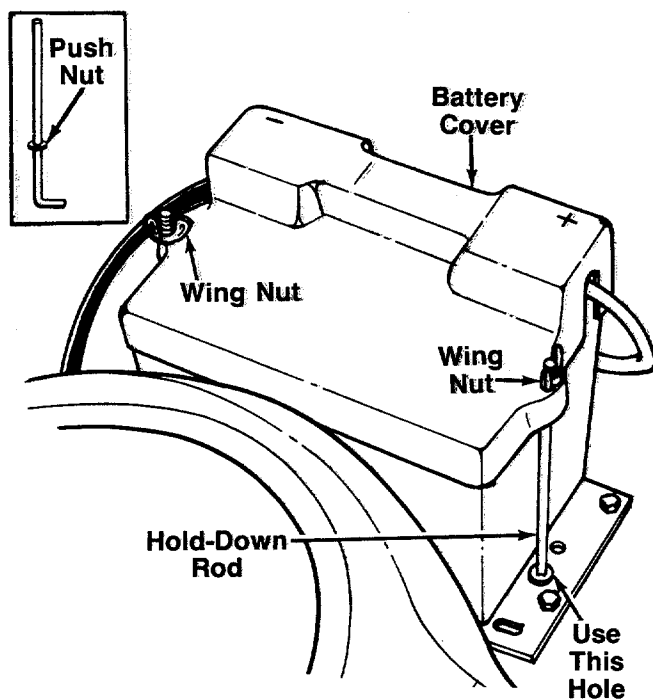

FIGURE 7.
4. Attach one push nut to each battery hold-down rod. See figure 7, inset.
5. Hook one hold-down rod into the hole in battery plate beside the battery as shown in figure 7. Slide the push nut down the rod, against the battery plate. Place the black plastic battery cover in position over the hold-down rod. Secure with wing nut. Attach other hold-down rod to the other side of battery cover in the same manner.